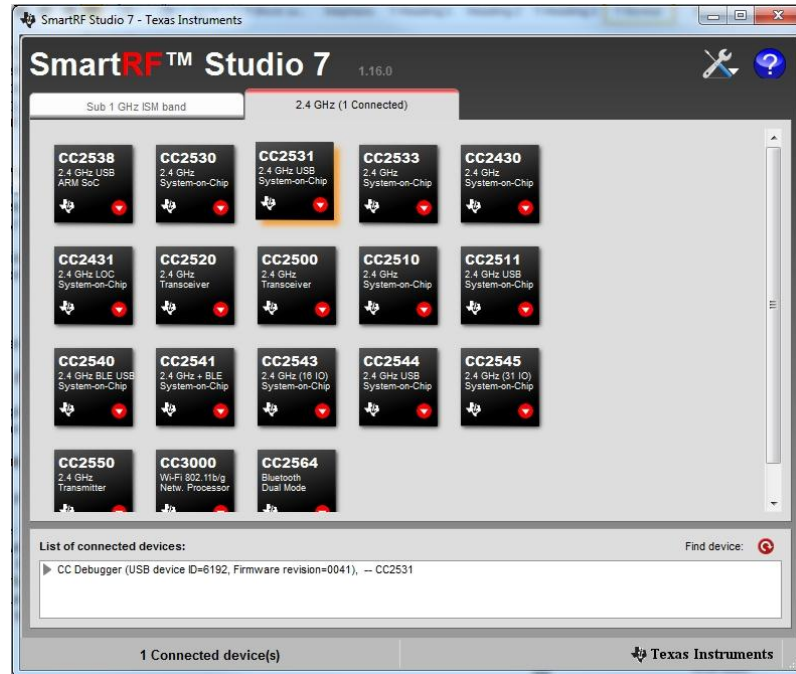

Figure 1. SmartRF Studio7
- d. Click the “2.4 GHz” Tab. The Part Number of the connected device will be highlighted in Figure 1.